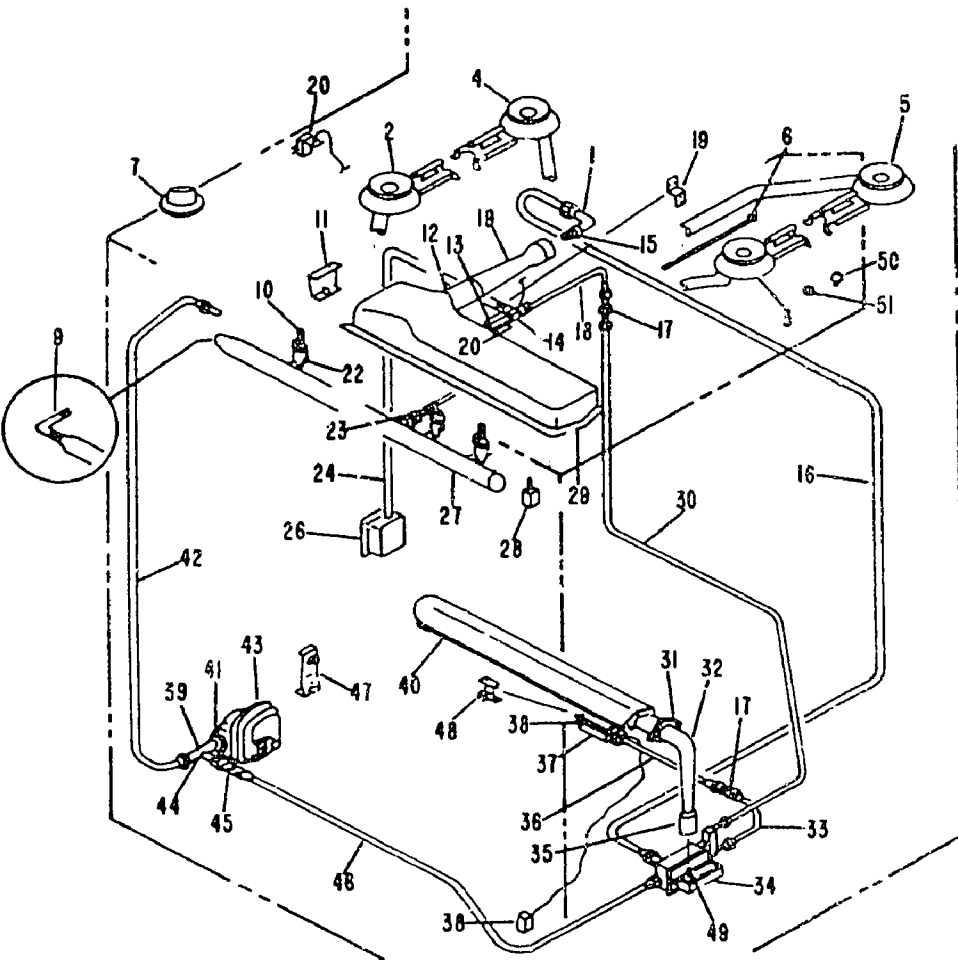

Figure 8
6. Identify by number (Fig. 8) the tubing top pilot-LH on a gas range.
7. Identify by number (Fig. 8) the tubing w/fillings-3/16" O.D.-union to oven pilot on a gas range.
8. Identify by number (Fig. 8) the oven burner lower on a gas range.